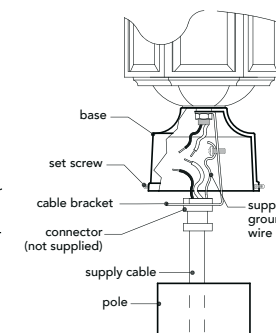

figure 5
1. Mount cable bracket (provided with ground screw) inside luminaire base (*Figure 5*).